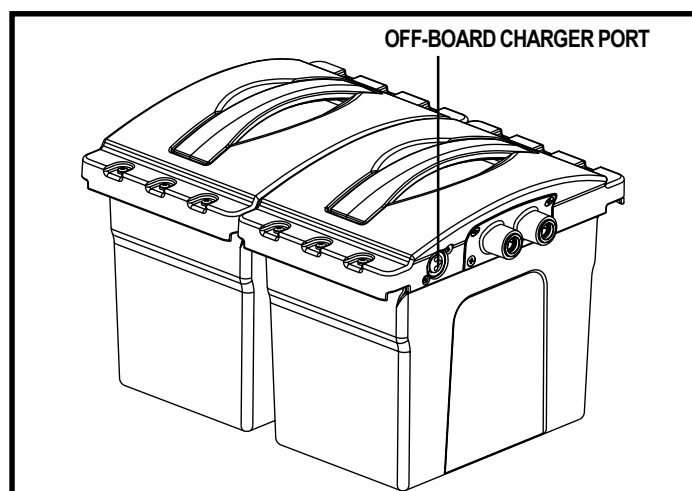

Figure 29. Battery Boxes (Removed from Power Base)
**NOTE:** You can remove both battery boxes from the power base and charge them using the off-board charger port located on the front battery box. The battery boxes must be connected in order to charge them. See figure 29.